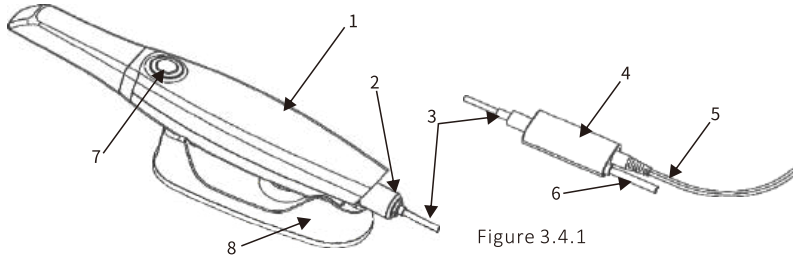

Figure 3.4.1
1. View Figure 3.4.1, connect the data cable 3 to the handpiece 1 of the oral digital impression machine, and tighten the cable lock shell 2.